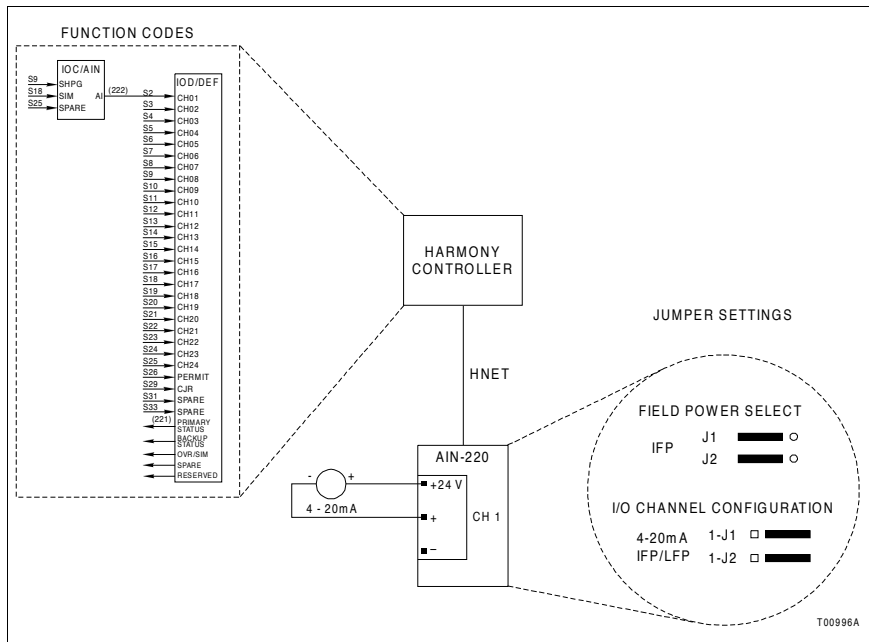

Figure 3-17. Example I/O Connection, Setup, and Configuration
- **I/O blocks** - most require some minimal hardware configuration; all require function code configuration (Fig. 3-17).